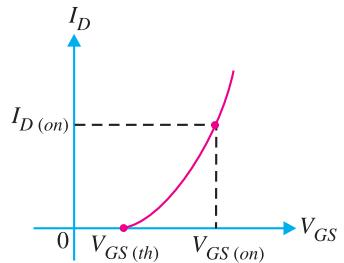

Fig. 19.58
**Equation for Transconductance Curve.** Fig. 19.58 shows the transconductance curve for *n*-channel *E-MOSFET*. Note that this curve is different from the transconductance curve for *n*-channel *JFET* or *n*-channel *D-MOSFET*. It is because it starts at  $V_{GS(th)}$  rather than  $V_{GS(off)}$  on the horizontal axis and never intersects the vertical axis. The equation for the *E-MOSFET* transconductance curve (for  $V_{GS} > V_{GS(th)}$ ) is
Any data sheet for an  $E$ -MOSFET will include the current  $I_{D(on)}$  and the voltage  $V_{GS(on)}$  for one point well above the threshold voltage as shown in Fig. 19.58.